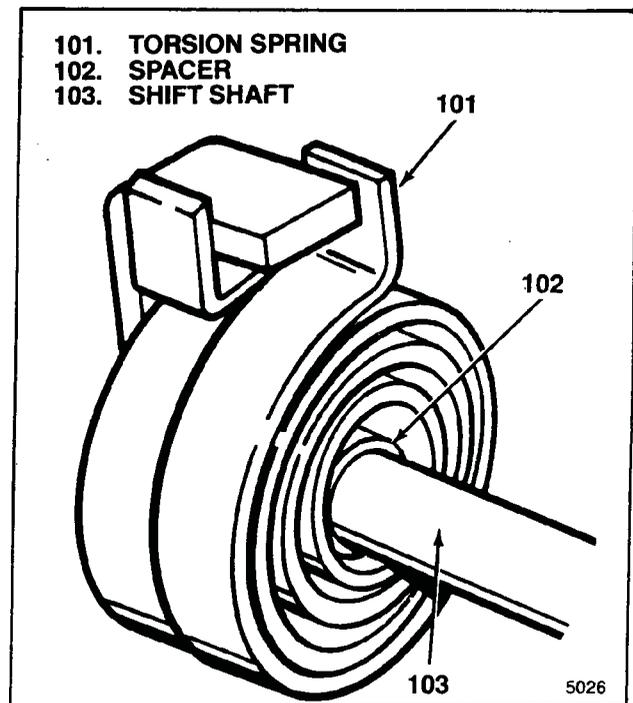

Figure 5-6. Completing Spring Assembly
- d. Push torsion spring (101) and spacer (102) together back as far as they will go (see figure 5-6).
- e. Slide electric shift cam (100) onto shift shaft (103), drive tang on cam first. Position drive tang on